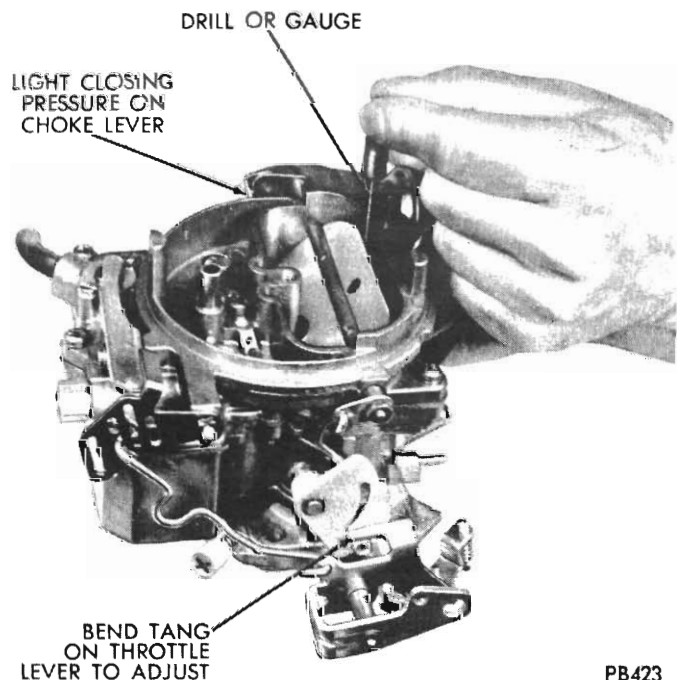

Fig. 26 - Choke unloader adjustment (wide open kick)
(1) Hold throttle valves in wide open position. Insert specified drill (see Specifications) between upper edge of choke valve and inner wall of air horn (Fig. 26).
(2) With a finger slightly pressing against shaft lever, a slight drag should be felt as drill is being withdrawn. If an adjustment is necessary, bend unloader tang on throttle lever until correct opening has been obtained (Fig. 26).